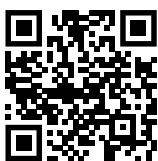

Fig. 147
- Avaa Liebherr SmartMonitoring Dashboard. (katso Fig. 147)